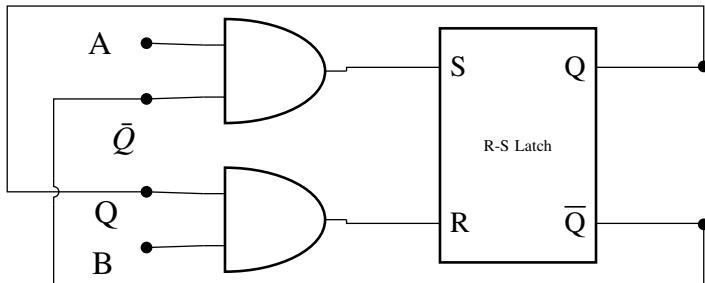

Fig. 3.31
49. The two inputs A and B are connected to an R-S latch via two AND gates as shown in Fig. 3.31. If $A = 1$ and $B = 0$, the output $Q\bar{Q}$ is